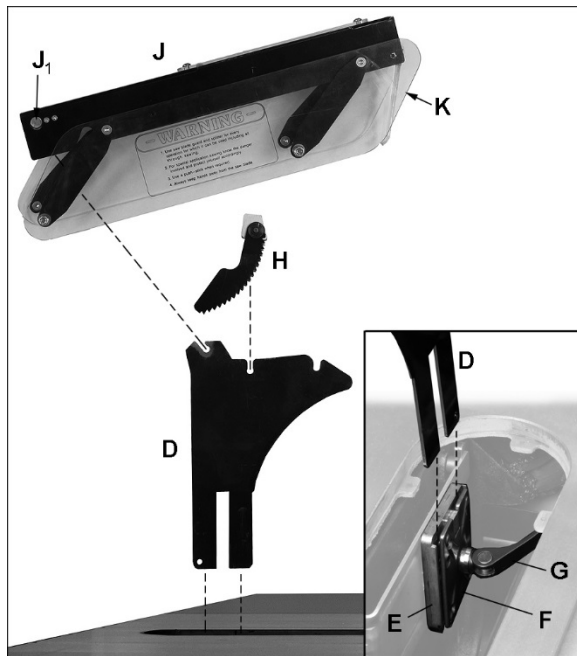

Figure 12
Refer to Figure 12.
3. Pull quick-release lever (G, Figure 12) to open position. The clamp plate (F) is spring loaded and will move away from the bracket (E), leaving a gap.
4. Slide prongs of riving knife (D) into slot between bracket (E, Figure 12) and clamp plate (F), and push riving knife down as far as it will go.
5. Push lever (G) to closed position.
2. Position anti-kickback pawl assembly (H) as shown in Figure 12; the angled side of pawl block faces toward front of saw.
3. Lower pawl assembly onto center notch of riving knife, with pawls straddling knife. Push and hold button on pawl block (on opposite side of that shown in Figure 12), and push pawl block down until it securely engages in notch.
The bracket and clamp plate (E/F, Figure 12) are adjusted at the factory and no further adjustment of the blade guard and riving knife assembly should be necessary. However, **proper alignment is very important**. Before operating table saw, read section 9.6, *Riving knife alignment*, to verify and follow adjustment procedure if necessary.